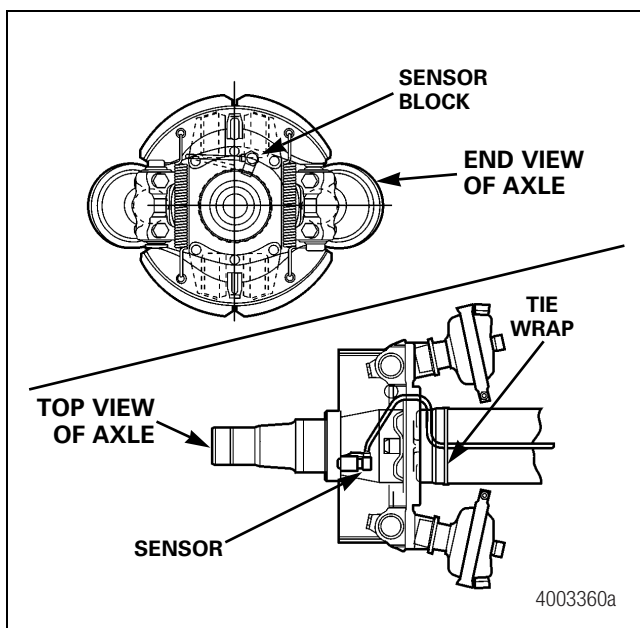

Figure 13.15
5. Route the ABS wires on axles equipped with wedge brakes as follows. Figure 13.15.